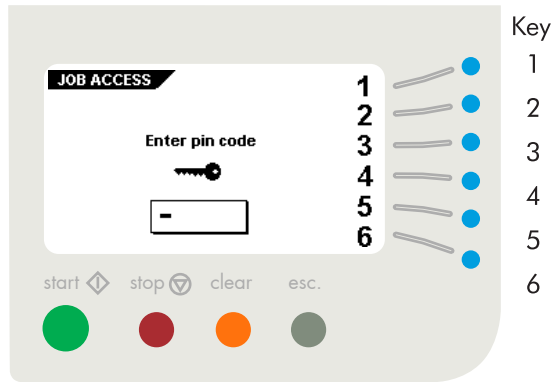

Fig. 28
After pressing key 4 in the "main menu (2)" (Fig. 9 on page 7), the display shows the "job access" screen and asks for a pin code to enter (fig. 28).